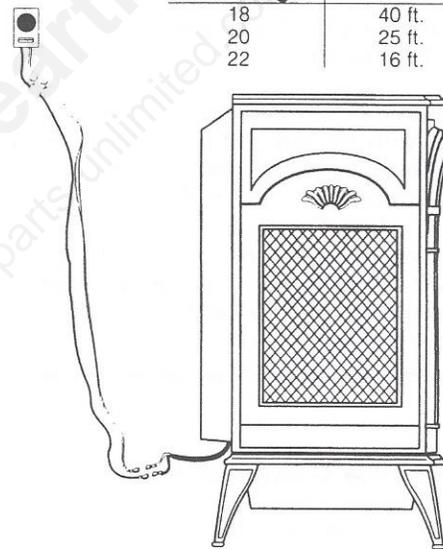

Figure 28. Attach leads for an optional thermostat to the connectors at the lower left rear corner of the stove.
2. The two leads with 1/4" female connectors extend from the wire harness, accessible from under the left rear side of the stove. Either thermostat wire may connect to either terminal. Figure 28.